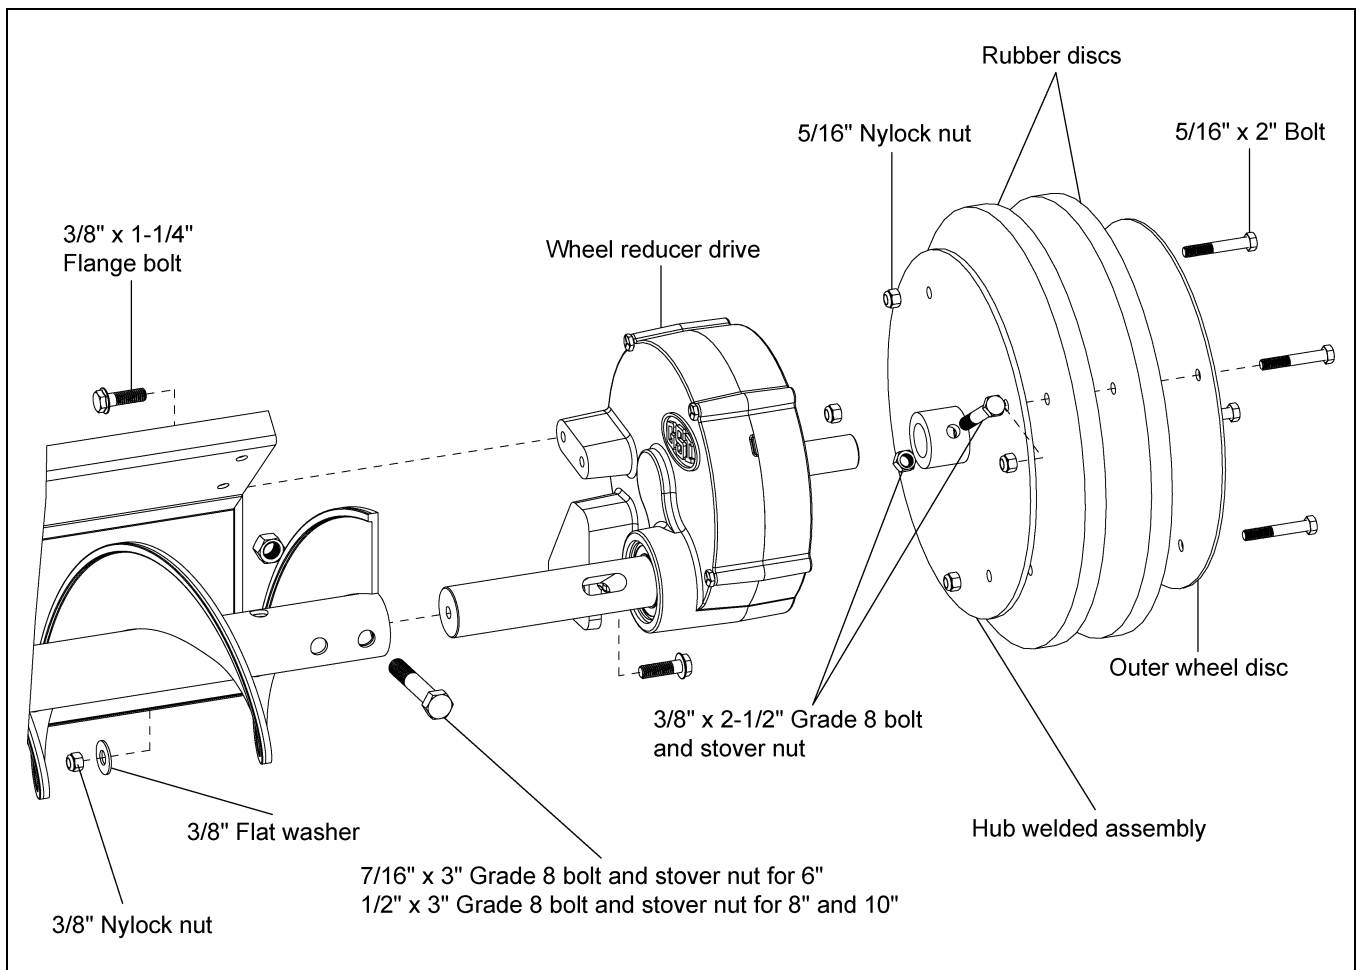

Figure 4F
1. Insert the input shaft of the reduction drive into the open end of the flight. Attach the drive to the flight with one  $7/16"$  x 3" grade 8 bolt and stover nut for 6" or one  $1/2"$  x 3" grade 8 bolt and stover nut for 8" and 10". (See Figure 4F.)
2. Mount the reducer to the back shield with two (2)  $3/8"$  x  $1-1/4"$  serrated flange bolts, one flat washer and nylock nut.
4. Attach the rubber discs and outer wheel disc to the wheel hub welded assembly with four (4)  $5/16"$  x 2" grade 2 bolts and nylock nuts. (See Figure 4F.)